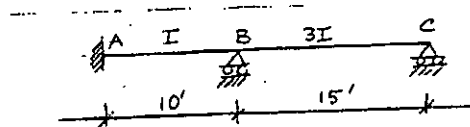

Figure 2
- a. Obtain support moments for the continuous beam shown in Figure 2. Given that  $\theta_A = +0.001$  rad/clockwise,  $\Delta_A = 0.01$  ft downward,  $\Delta_B = 0.04$  ft downward,  $\Delta_C = 0.0175$  ft downward,  $E = 30 \times 10^3$  ksi,  $I = 1,000$  in4.
<p style="text-align: center;">Fig. 2</p>